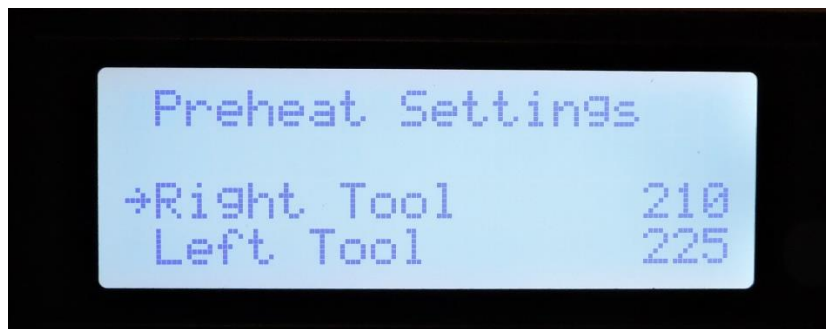

Figure 12 : Preheat Settings Screen
4. Select the Preheat Settings menu item and press the **middle** button. The Preheat Settings screen will be displayed – see Figure 12.